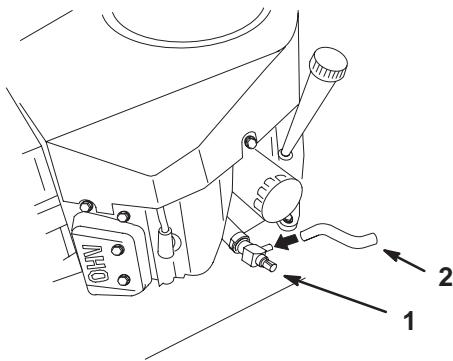

Figure 29
6. Place a pan below the drain hose. Rotate oil drain valve to allow oil to drain (Fig. 29).
8. Remove the drain hose (Fig. 29).